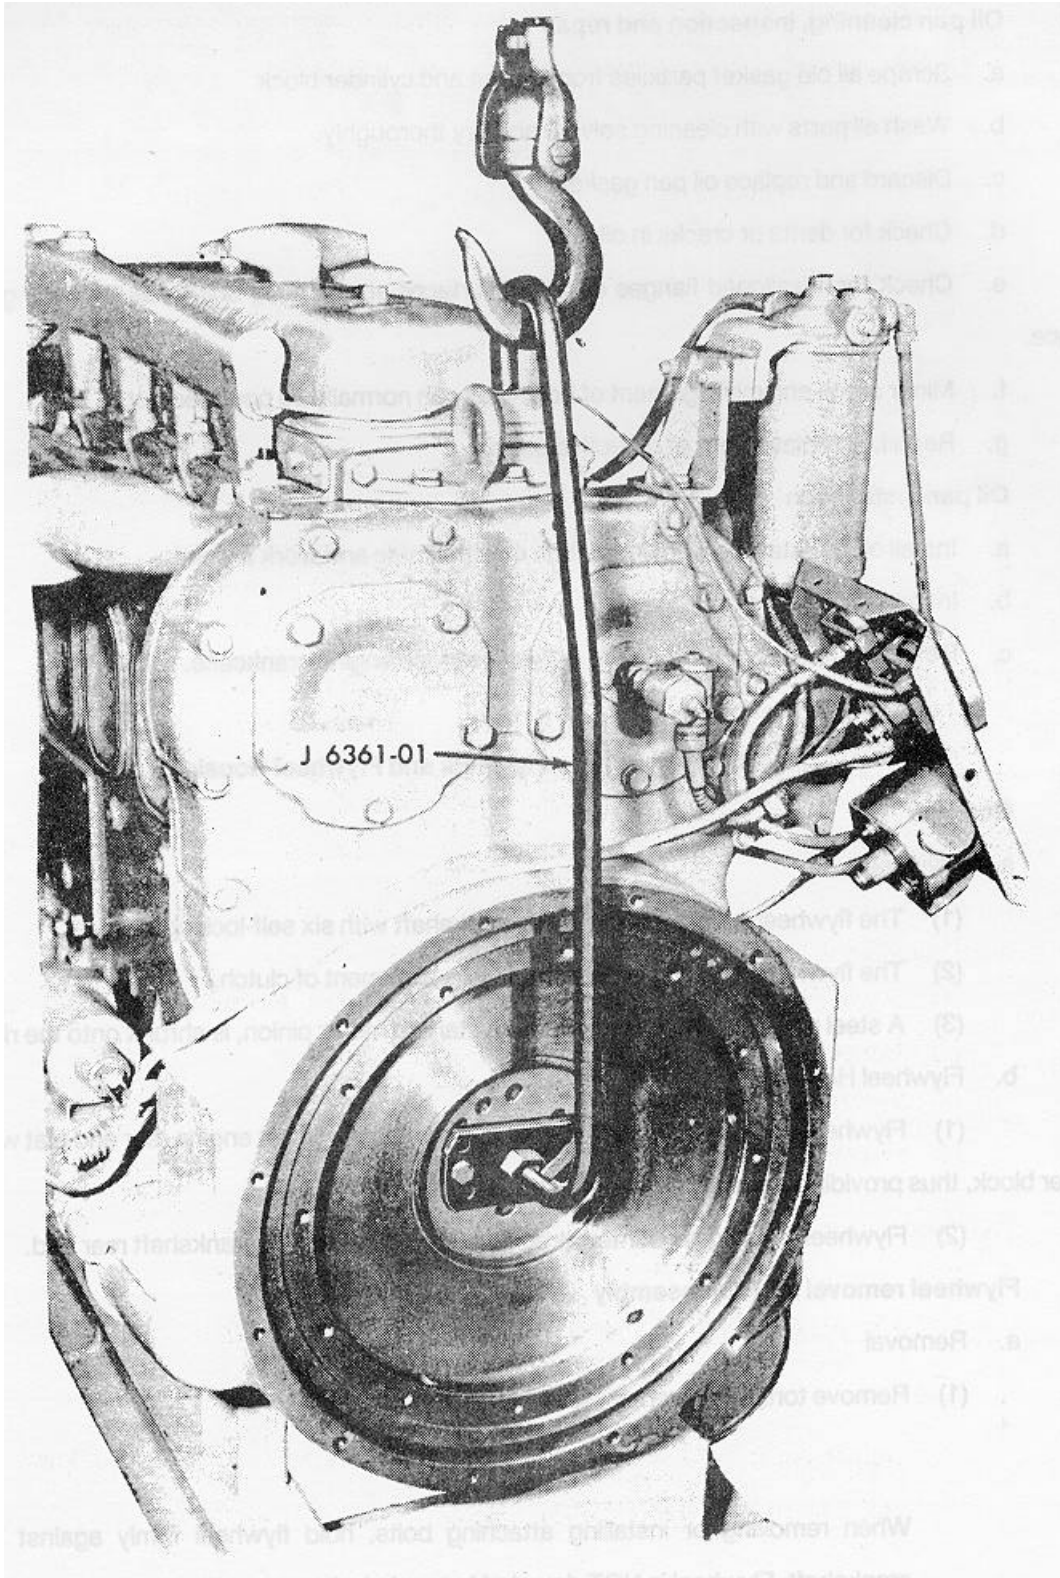

Figure 5-33. Flywheel Removal and Installation.
(2) Refer to Figure 5-33 and remove flywheel attaching bolts and scuff plate. (Reinstall one bolt.)